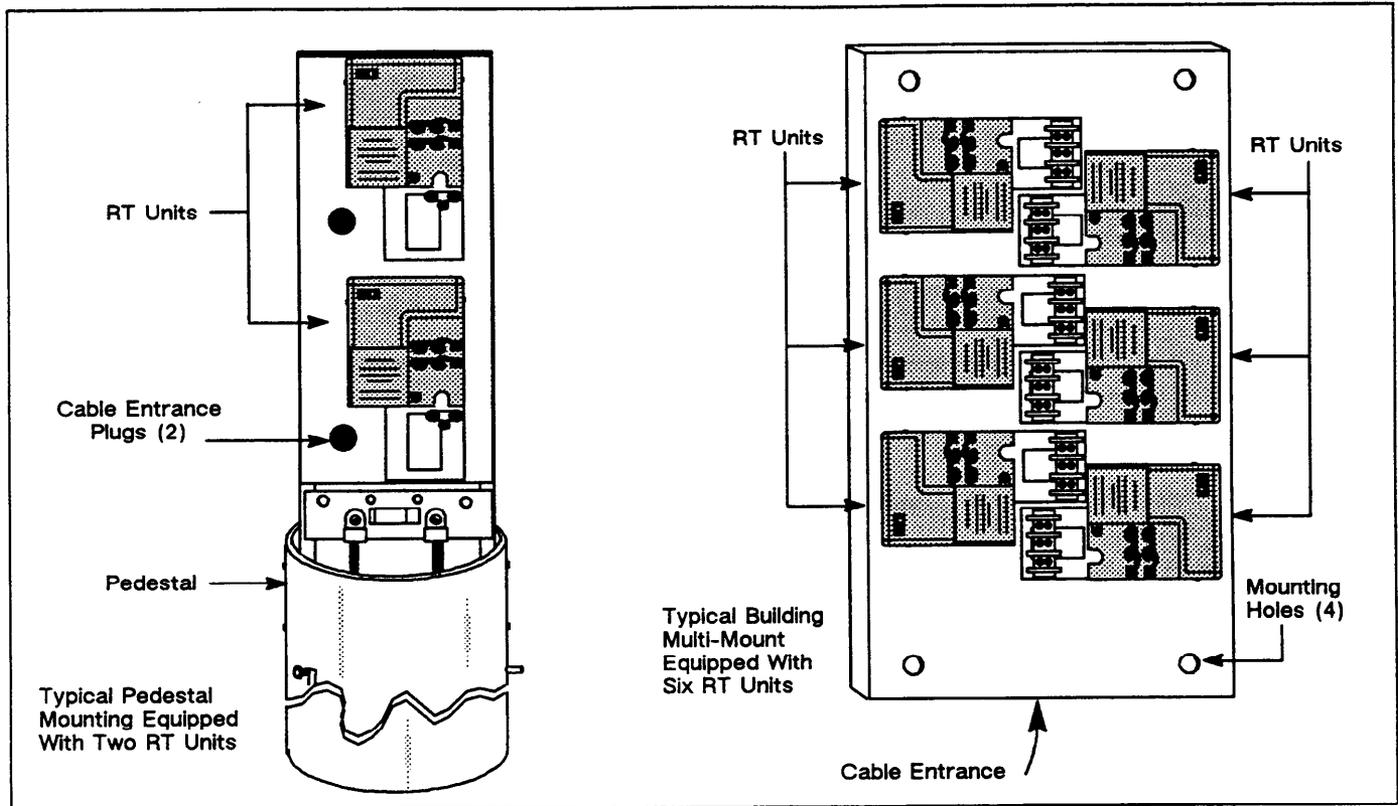

Figure 6. Typical Pedestal and Multi-Mount Building Configurations
4.02 The Wescom DDL111 or DDL112 RT DuaLine Plus Remote Terminal is an enclosure that is normally mounted on a telephone pole. It can also be mounted on an outside or inside wall. The RT contains circuitry to interface 2 POTS lines to the Digital Subscriber Loop. The RT provides protectors for both the Digital Subscriber Loop and subscriber drop lines. Terminals for connecting the Digital Subscriber Loop and subscriber lines are also provided. The RT is completely powered from the Central Office Terminal requiring no batteries or local power. See Figures 4 and 5. Additional mounting options, such as pedestal mounting and multi-mount building, etc. are available. See Figure 6.